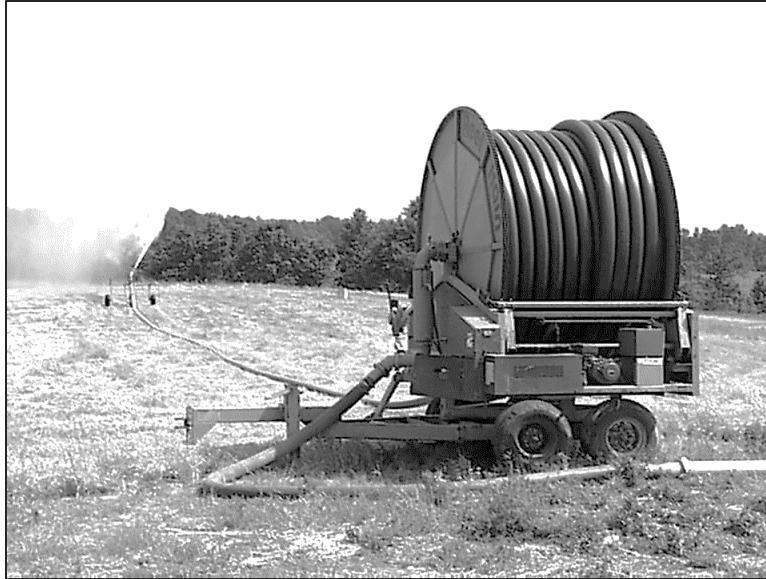

Figure 4-16. Hard-hose traveler showing reel and gun cart.
A hard-hose traveler has a large reel (hose drum) mounted on a two- or four-wheel trailer, and a large semi-rigid polyethylene (PE) hose. The hose reel is parked at the end or in the middle of a travel lane. The hose supplies wastewater to the gun sprinkler and pulls the gun cart along as it is wound onto the hose reel (Figure 4-16).